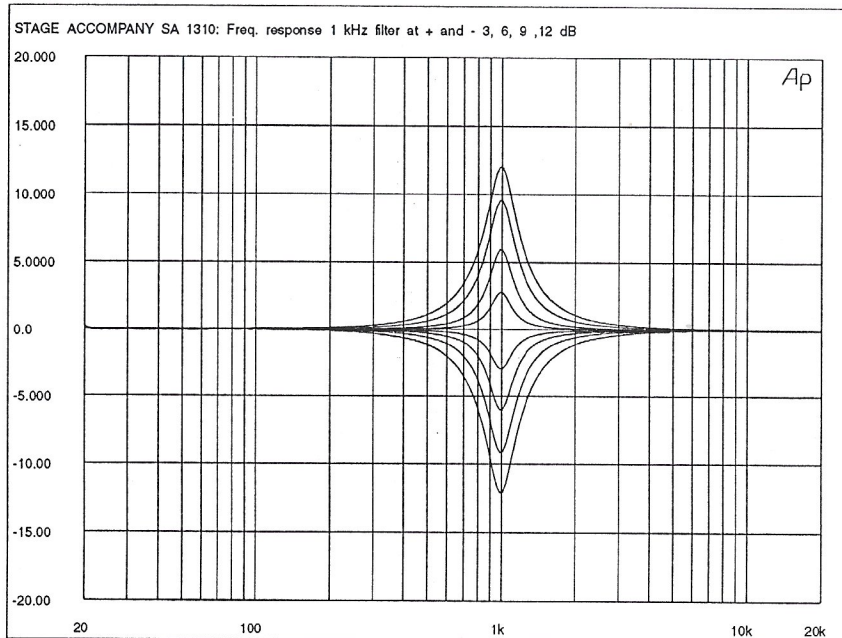

Figure 3-2. The frequency response of the 1 kHz filter at +/-3, 6, 9 and 12 dB settings (dB versus Hz).
Figure 3-2 shows the frequency response of the 1 kHz filter at +/-3, 6, 9 and 12 dB settings.
This interaction between the filters is not a deficiency of the design but a natural result of the overlap of the individual filters. If you look at the response of the 1 kHz filter in figure 3-2, you will note that the gain at the first neighbouring frequency (800) Hz is still 6 dB. If the 800 Hz and the 1kHz filter are both set to +12 dB, each filter will apply some gain to 800 Hz signals: +12 dB from the 800 Hz filter and +6 dB from the 1kHz filter, resulting in + 18 dB total gain around that frequency.